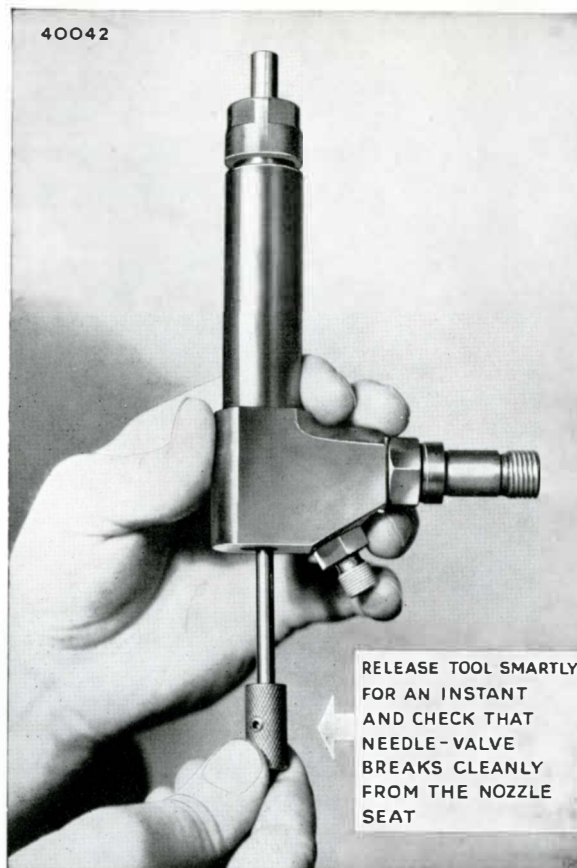

FIG. 67. THE INVERTED TEST
2. Hold the injector vertically in an inverted position, Fig. 67.